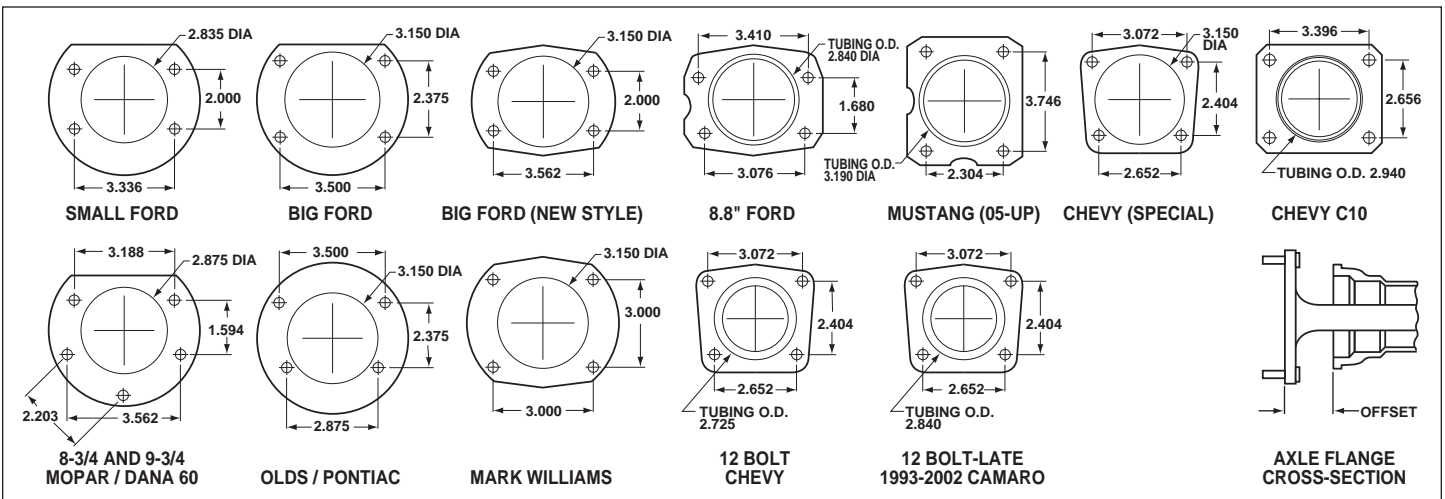

Figure 5. Rear Housing Flange Chart and Axle Flange / Offset Cross-Section
- Make sure this is the correct kit to fit the axle housing flange, not necessarily the rear end make. Many times after market manufacturers put a different make of axle housing flange on the stock rear end housing (see Figure 5). Example; Big Ford rear ends with Olds-Pontiac flanges, therefore, an Olds-Pontiac rear disc brake kit would be the correct kit to order. Also, shock clearance may be a problem. They may have to be modified and/or relocated to clear the Wilwood kit after final assembly.
- Dimension from wheel side of axle flange is the same as wheel side of axle housing flange (see Figure 5, lower right hand corner). This dimension is critical to ensure proper alignment of the rotor to the caliper, and should match offset given in the kit description.